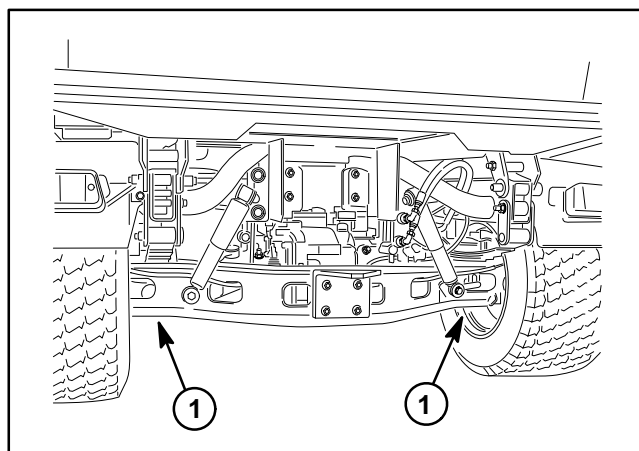

Figure 2
4. The jacking point at the rear of the vehicle is under the axle (Fig. 2).